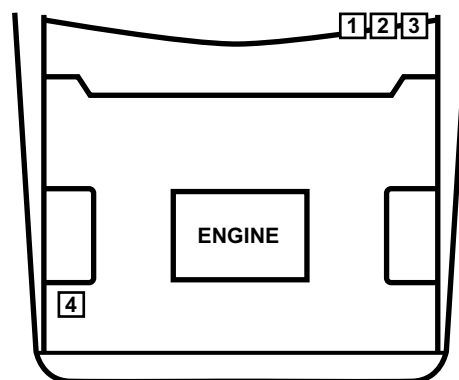

Figure 15-2 1983–84 Turbo common connector locations
- “1983–84 Turbo common connector locations” on page 166 (Table 15-2, Figure 15-2)